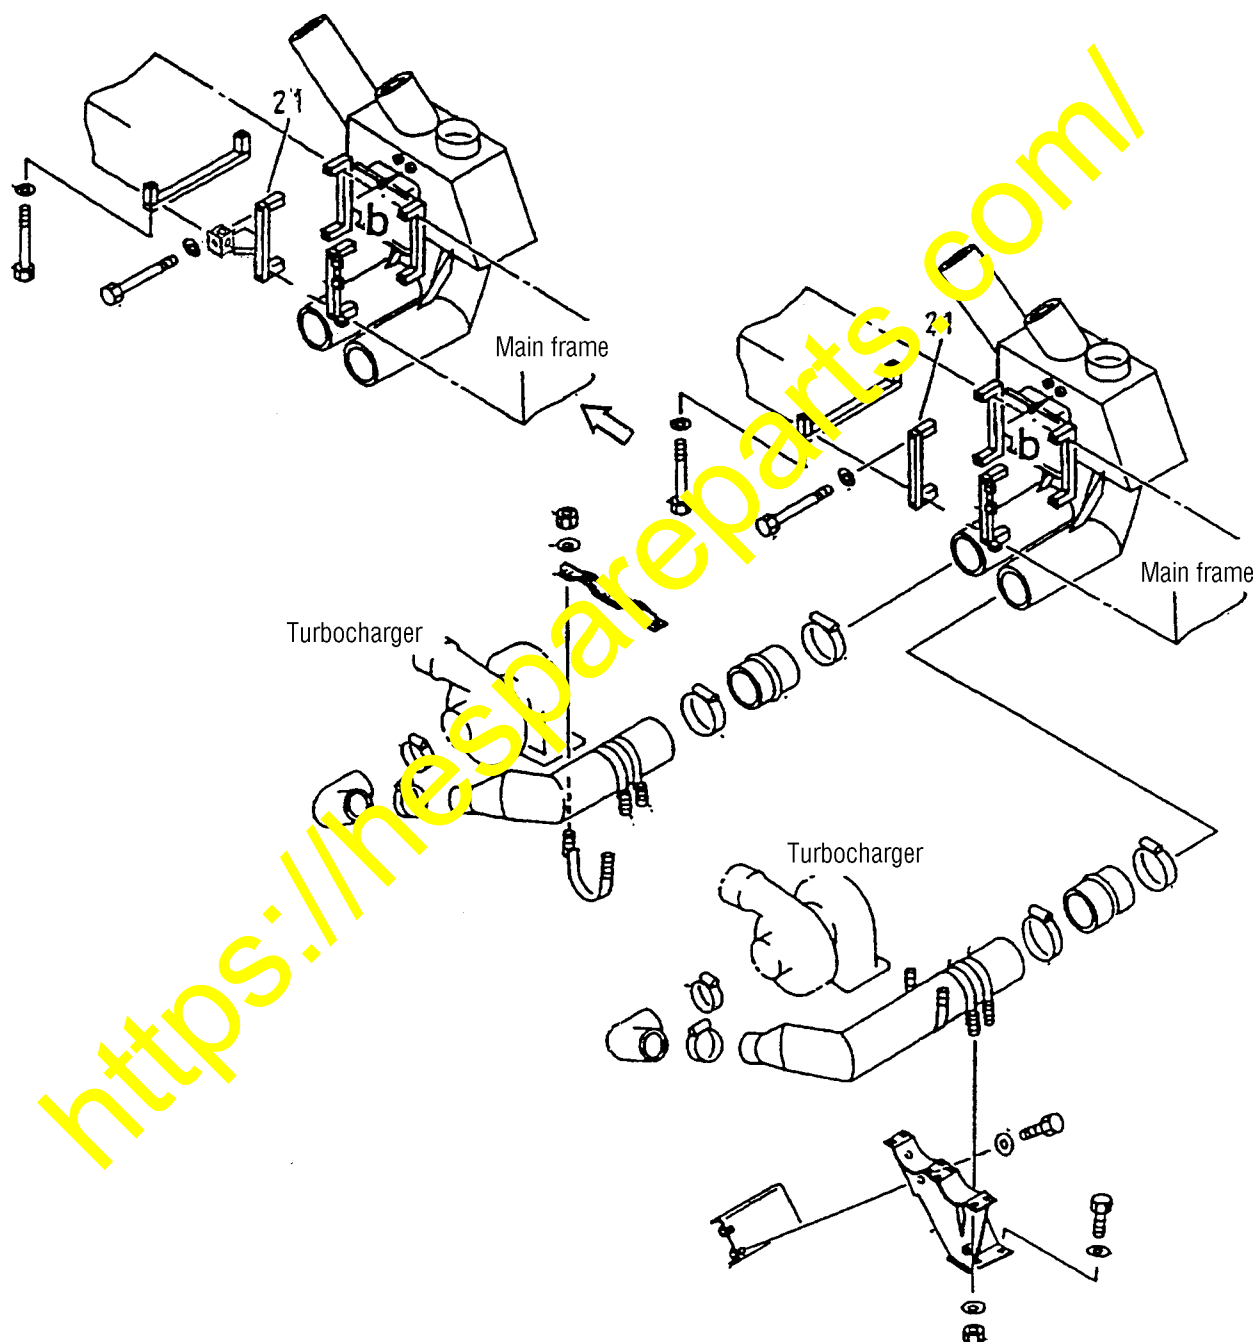
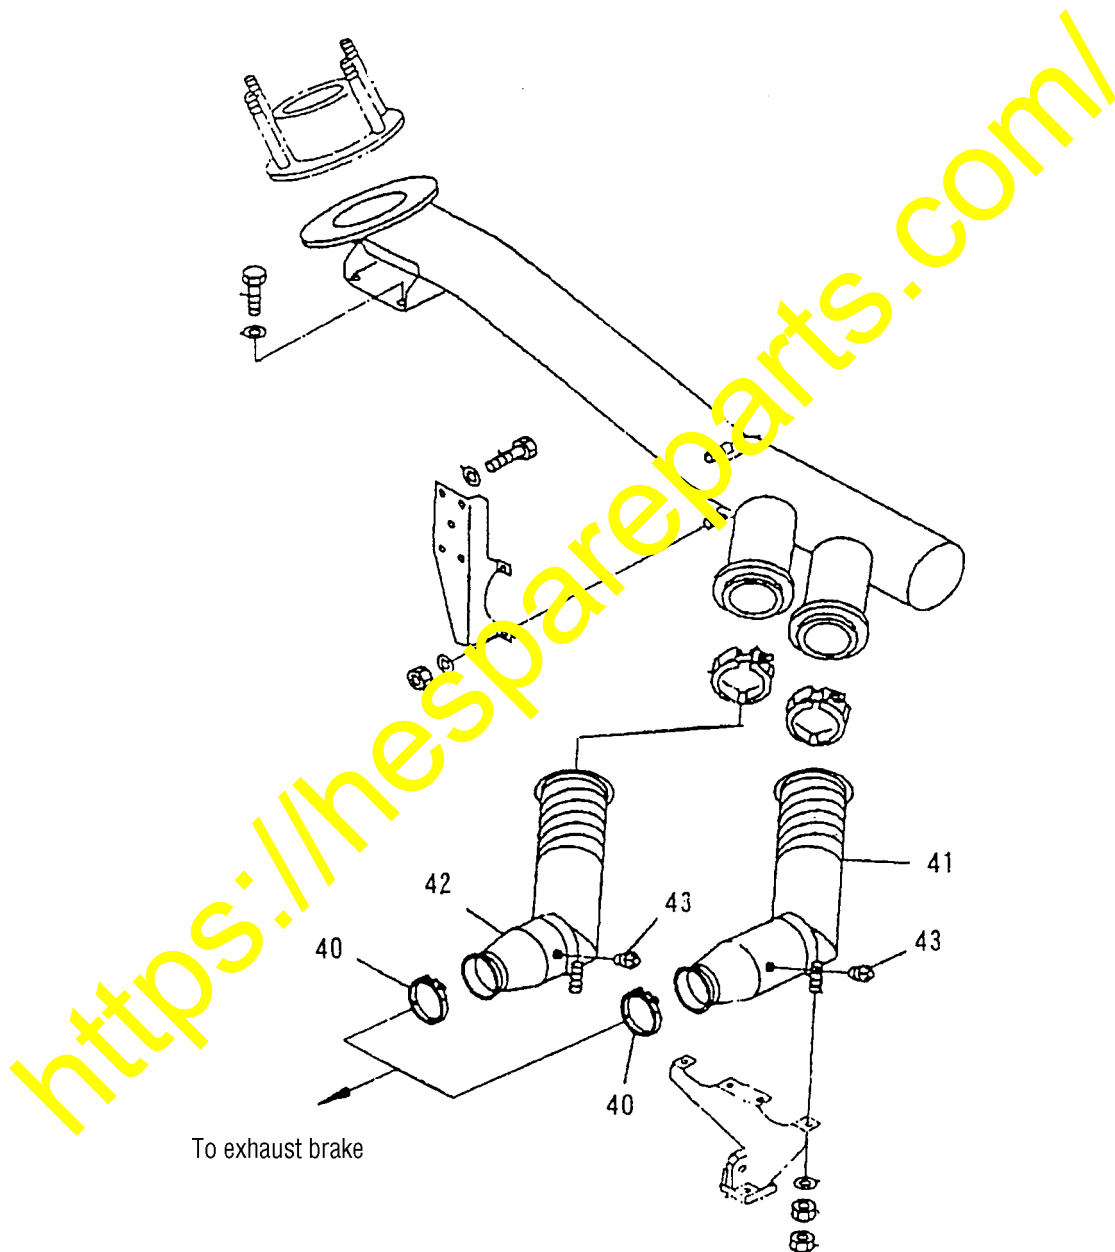
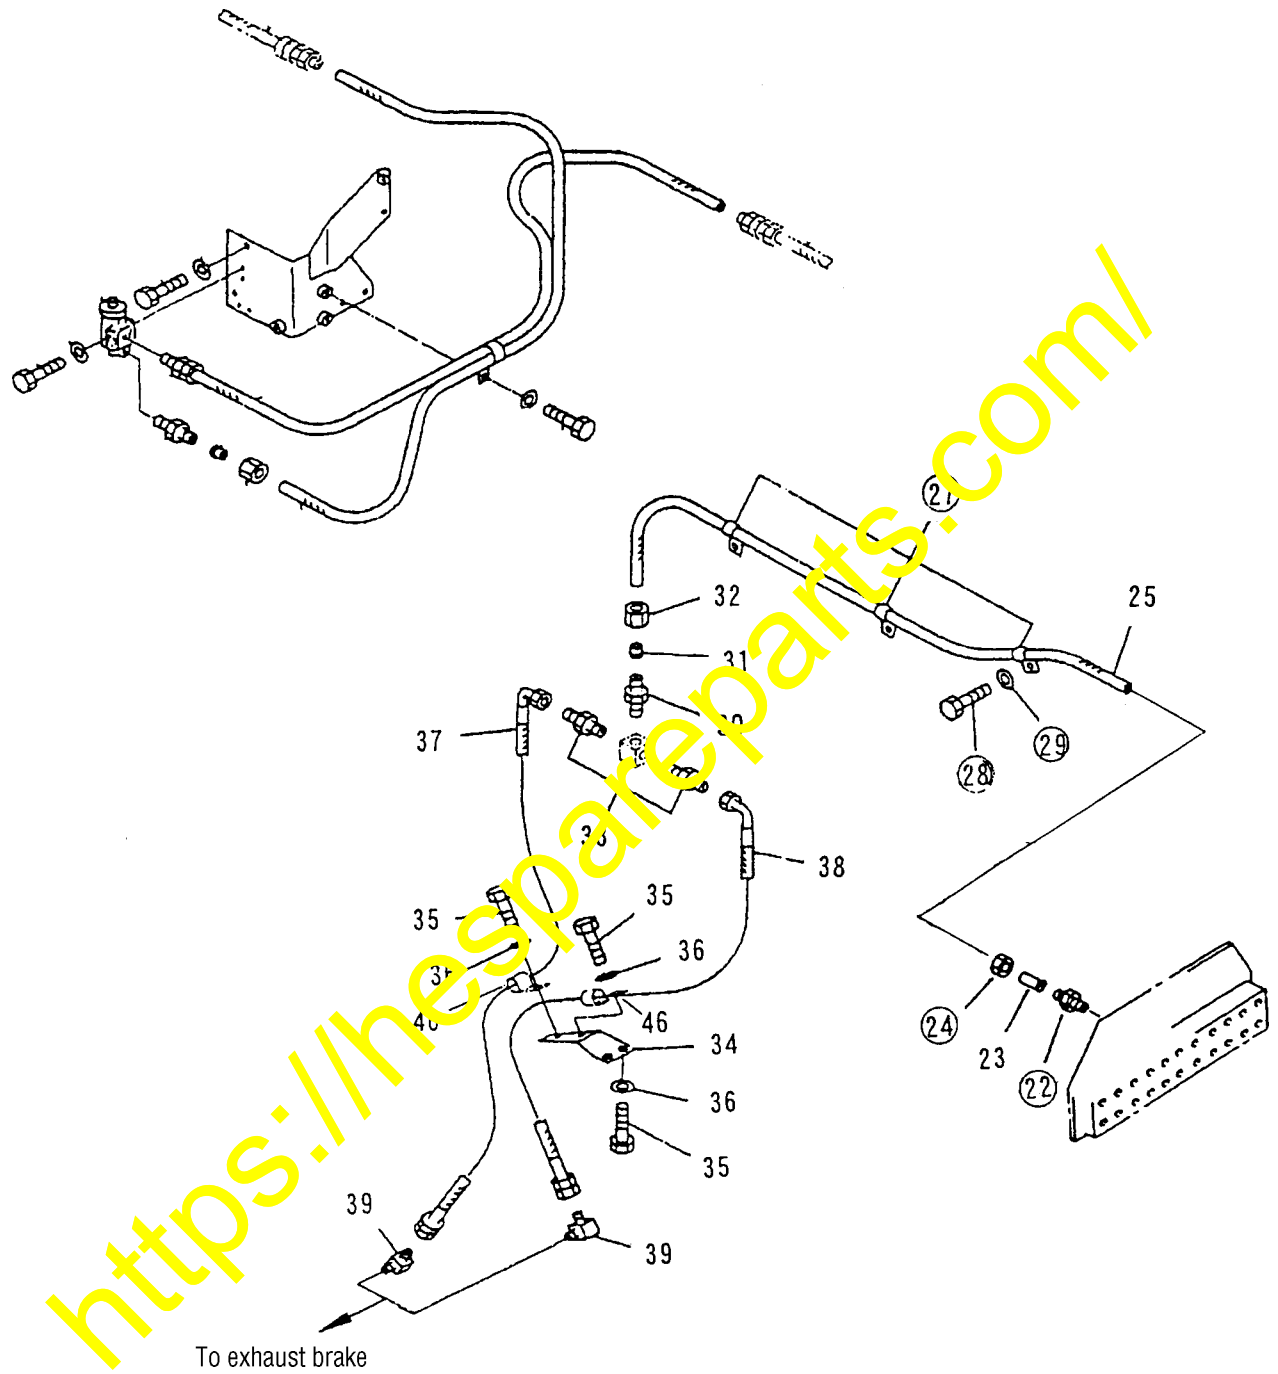
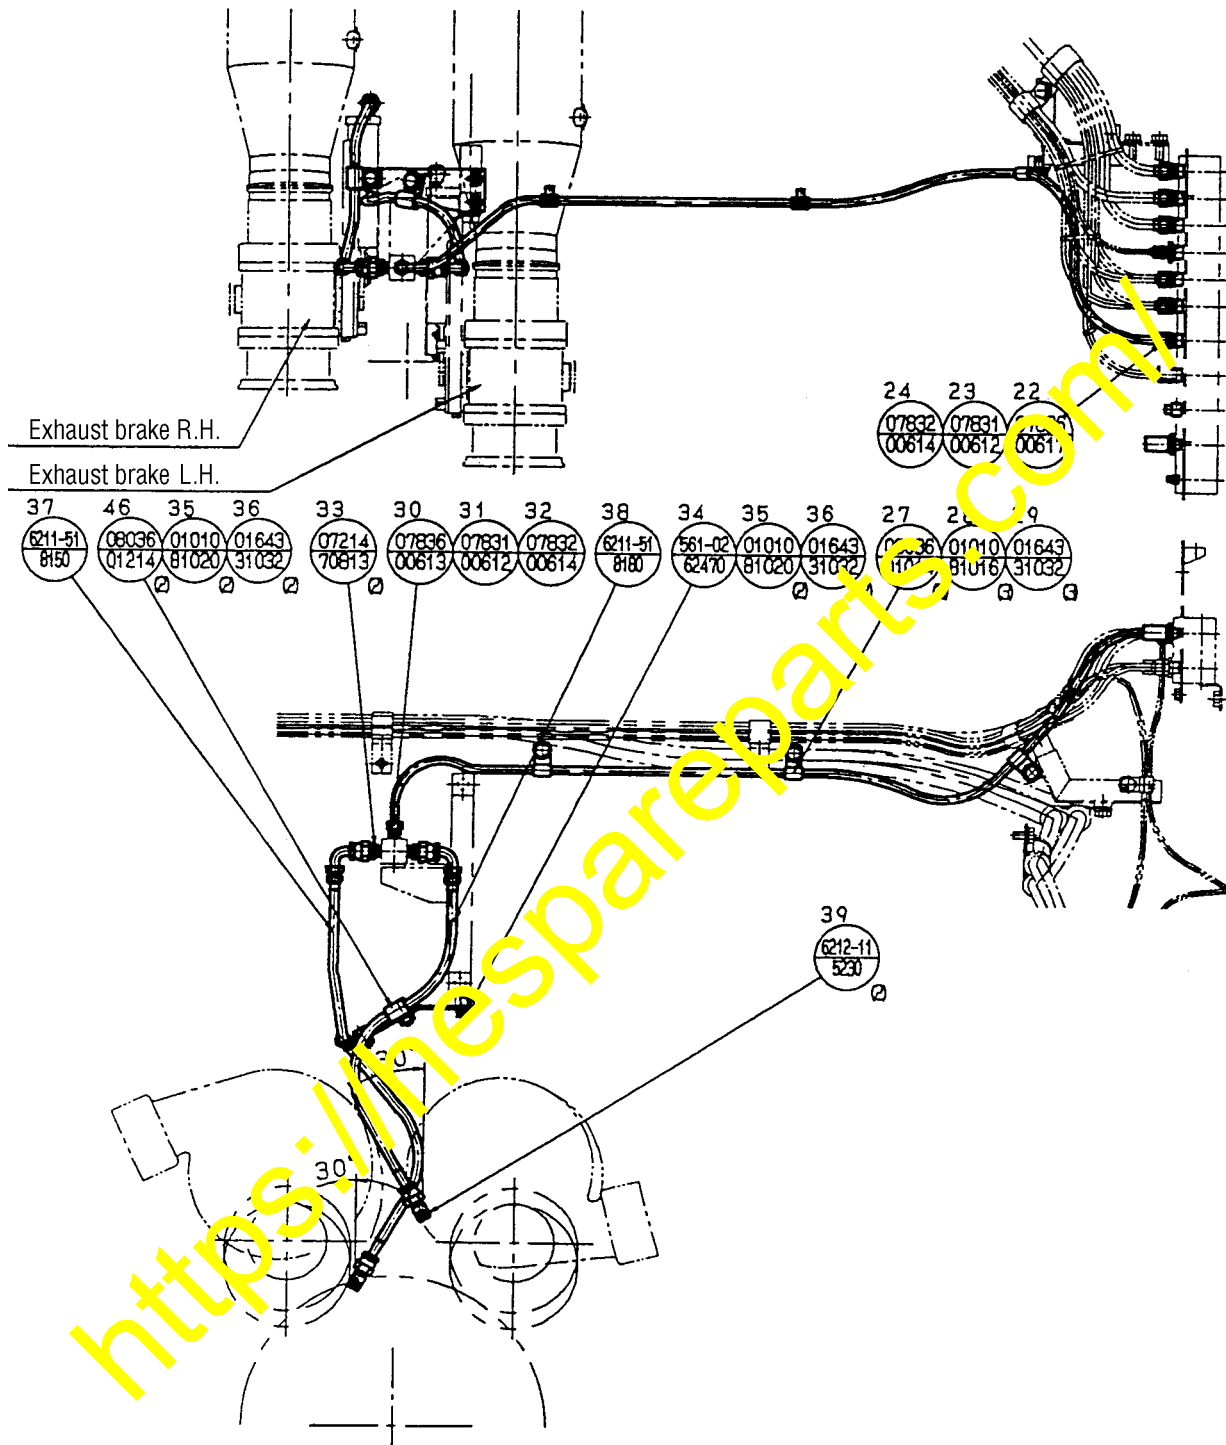

Fig. 4 Schematic diagram instructing replacement of the bracket for the collective air intake box.
Fig. 7 Schematic diagram for the piping parts which need to be installed for this modification (Exhaust pipings)
Fig. 8 Schematic diagram for the piping parts which need to be installed for this modification (Air pipings)
Fig. 9 Schematic diagram for the piping parts which need to be installed for this modification (Air pipings)
3-2. Installing the chassis related parts (Refer to Fig. 4 thru Fig. 9.)
(1) Replacing the bracket for the collective air intake box (Refer to Fig. 4.)
- (3) Installing the air pipings and the exhaust pipings for the exhaust brake (Refer to Fig. 7, Fig. 8 and Fig. 9.)